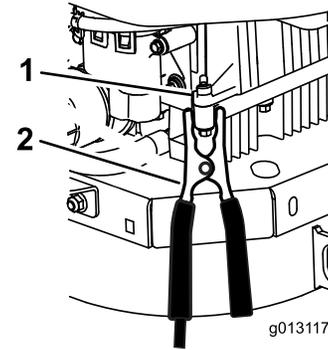

Figure 49
6. Make the final connection on the engine block of the stalled machine (not to the negative battery post), away from the battery, and stand back (Figure 49).